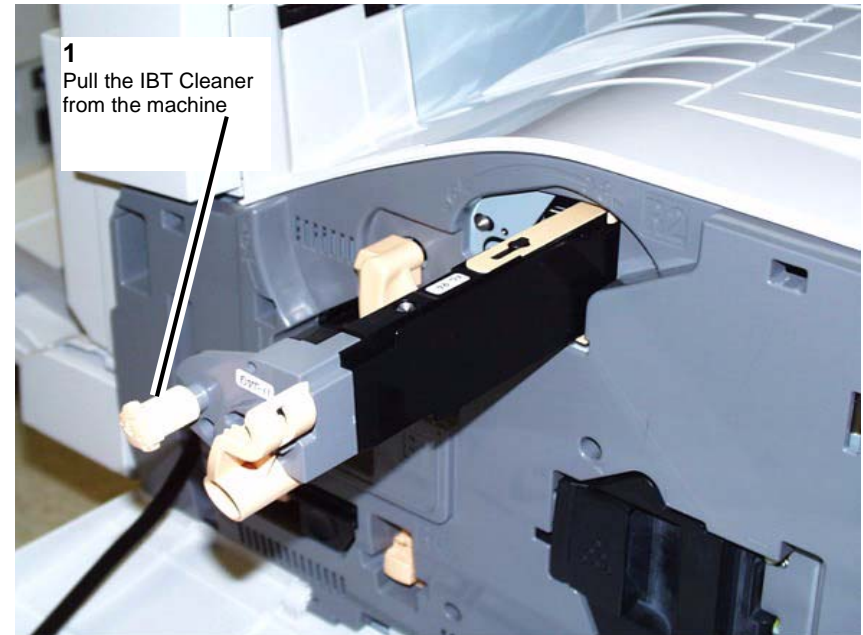

Figure 2 Removing the IBT Cleaner
3. Pull the IBT Cleaner out of the machine. (Figure 2)